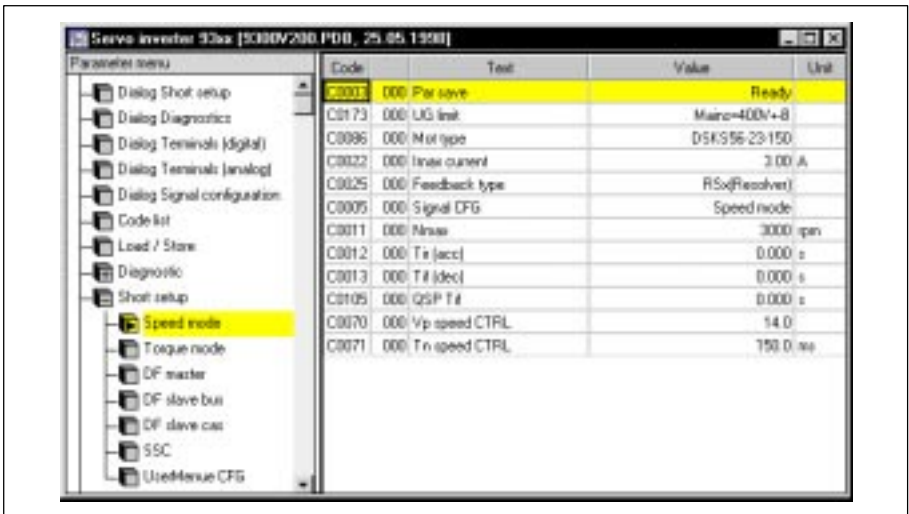

Fig. 7 Window "Parameter window"
- The right side displays information and data about the point activated in the parameter menu, for instance, in Fig. 7 a table with the codes relevant for speed operation.